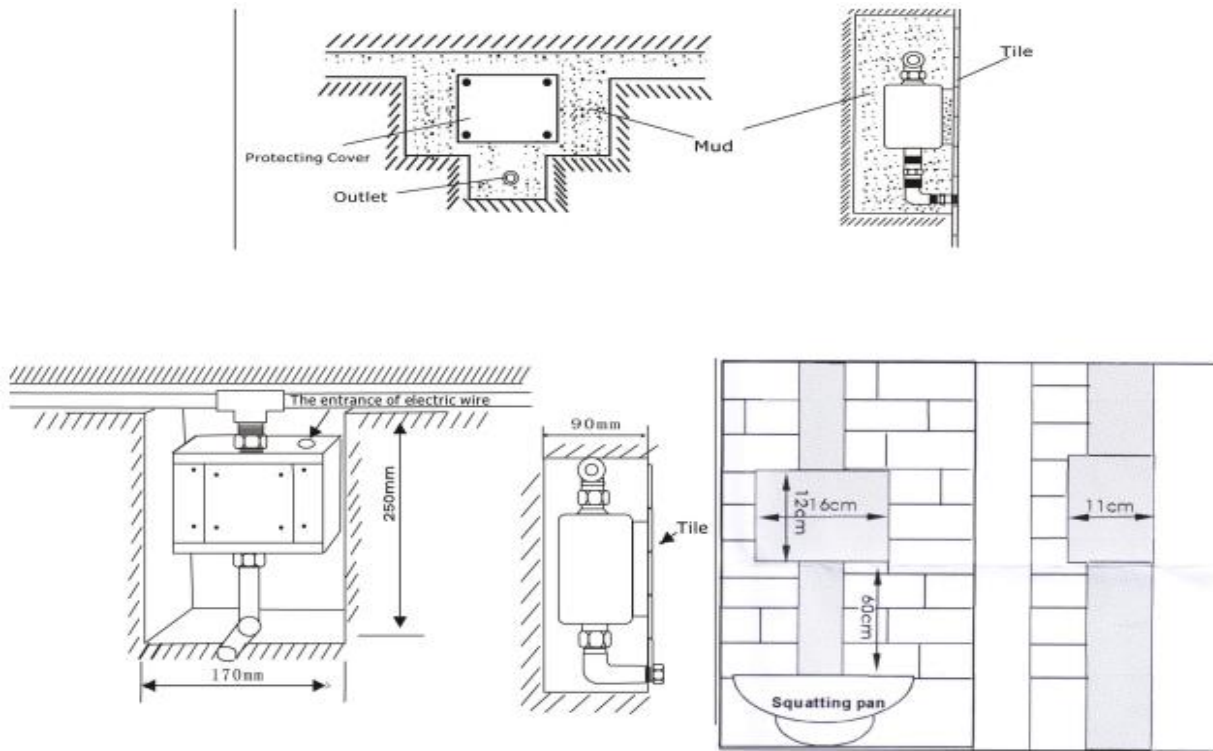

Fig. 1.30: Appropriate cutting as per the required dimension
**Step 1:** Make sure to mark the appropriate points and cut according to product size while installation of the inbuilt cistern. (Refer Fig. 1.30)